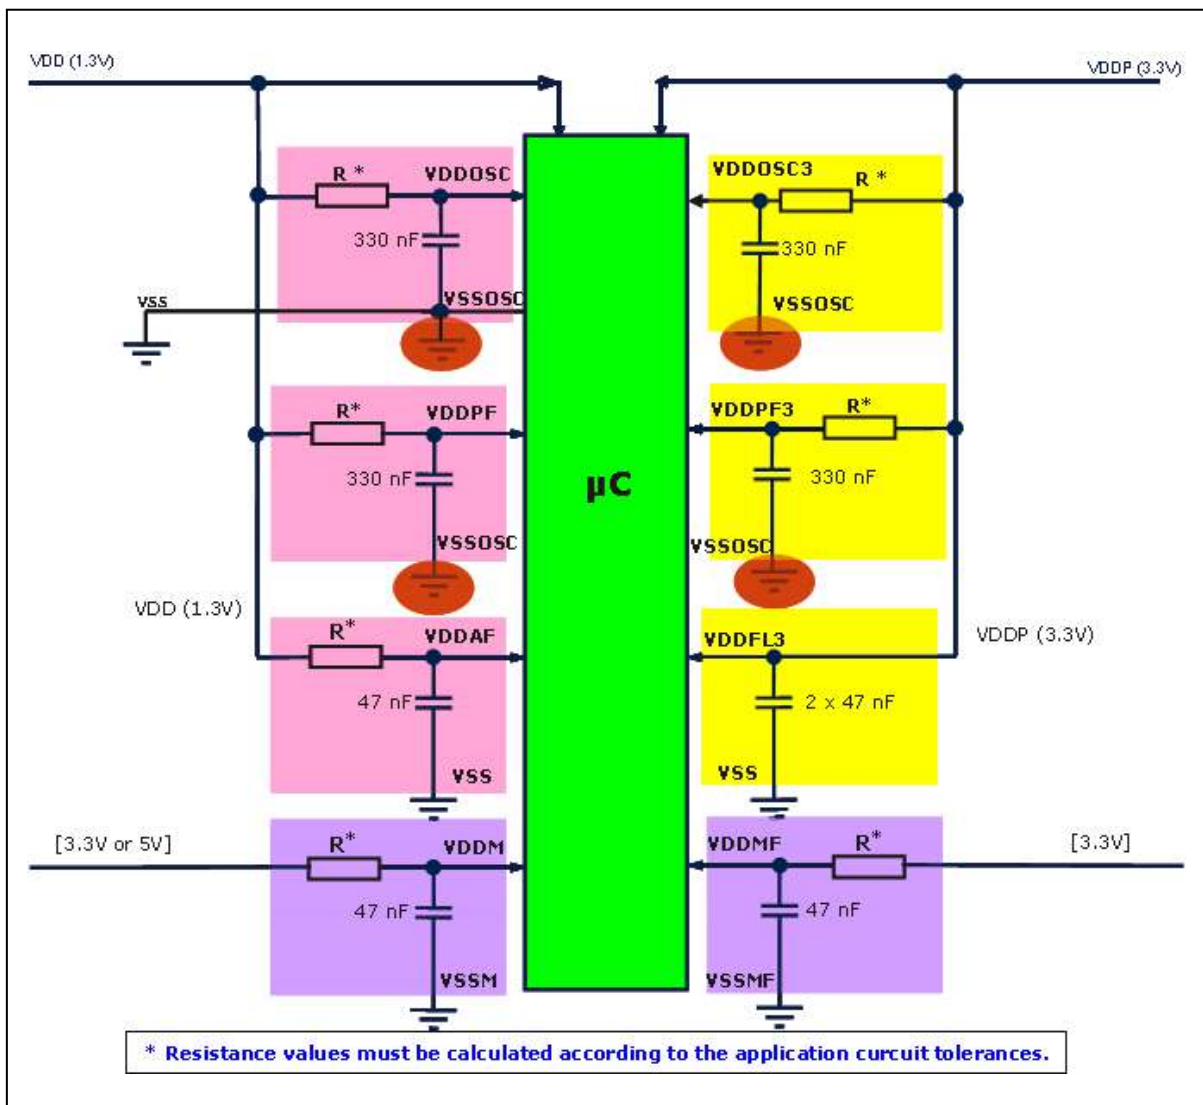

Figure 2 Filtering of VDDOSC, VDDOSC3, VDDFL3, VDDPF, VDDPF3, VDDM, VDDMF, VDDAF supply pins
- The power distribution from the regulator to each power plane should be made over filters (see Figure 2).
- RC Filters can be inserted in the supply paths at the regulator output and at the branchings to other module supply pins like VDDOSC, VDDOSC3, VDDFL3, VDDPF, VDDPF3, VDDM, VDDMF, VDDAF (see Figure 2). Using inductance or ferrite beads (5 – 10 μH) instead of the resistors can improve the EME behaviour of the circuit and reduce the radiation up to $\sim 10\text{dB}\mu\text{V}$ on the related supply net.